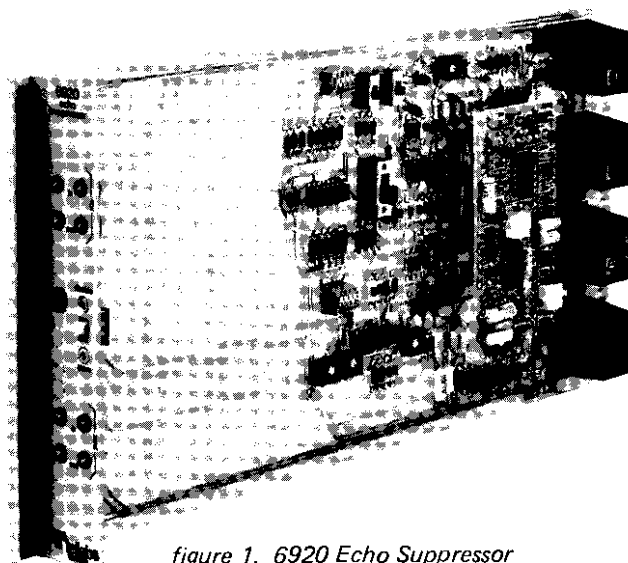

figure 1. 6920 Echo Suppressor
1.01 The 6920 Echo Suppressor (figure 1) is a voice-switched, split-type echo suppressor intended for use near the end points of 4wire transmission facilities characterized by appreciable propagation delay. Echos caused by signal reflections at impedance discontinuities and interface points, such as 4wire-to-2wire interface points, are suppressed during voice frequency transmission by the 6920.